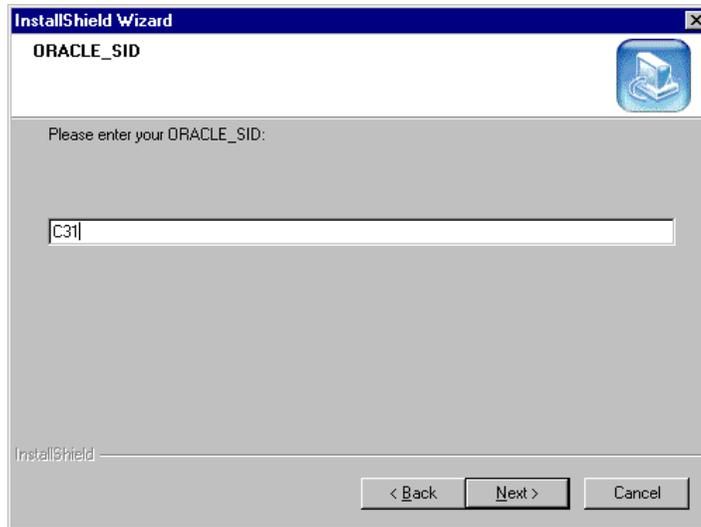

Figure 66. Specify ORACLE_SID
2. Now specify the name of your Oracle instance, as shown in Figure 66.